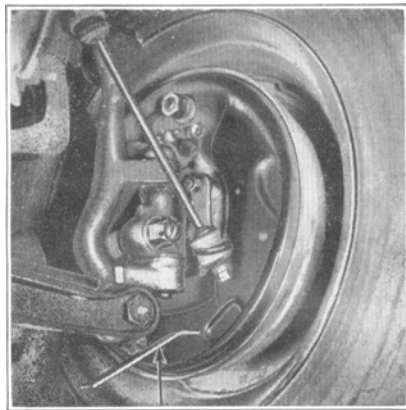

Figure 45
4. At each wheel, with a screw driver or suitable tool inserted through the slot in the brake backing plate, expand shoes against drum with adjusting screw, see Fig. 45, by moving outer end of tool toward center of backing plate until a heavy drag is noted when wheel is turned by hand.